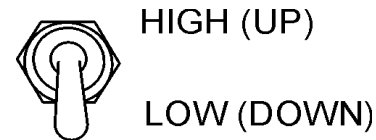

Figure 62. Engine Speed Switch (High)
22. Place the engine speed switch in the "**LOW**" position (Figure 62).